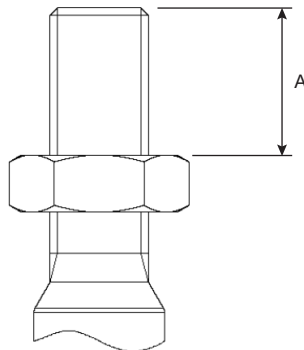

Fig. 4 Thread Engagement
- Set the valve stem lock nut at the correct Thread Engagement dimension "A" (Figure 4 and Tables 3 – 5) for the relevant valve and actuator combination.